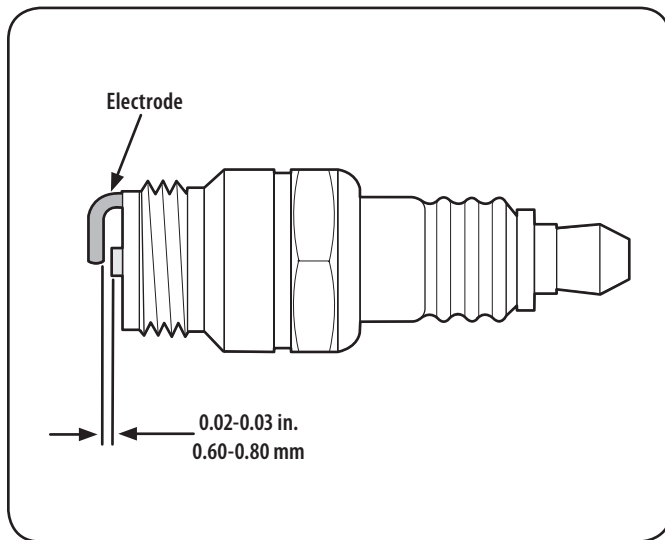

Figure 22
3. Measure the plug gap with a feeler gauge. Correct as necessary by bending side electrode. See Figure 22. The gap should be set to 0.030 in.